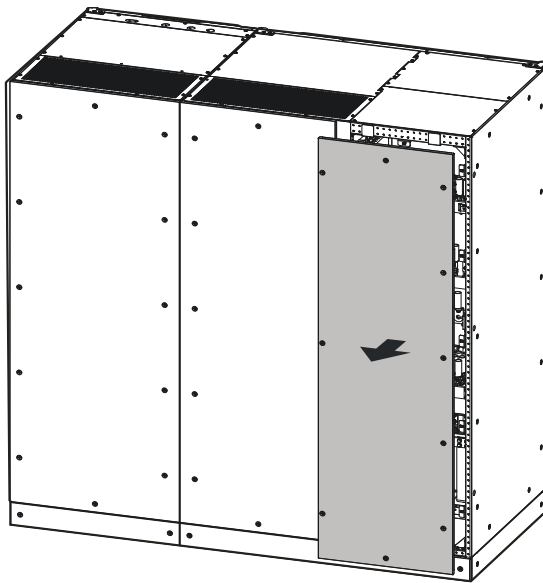

Figure3-35 Dismantle wiring cover plates of PS800KVA
Step 1 Use the cross screwdriver to remove the screws from the wiring block, and dismantle wiring cover plates, as shown in Figure3-35.